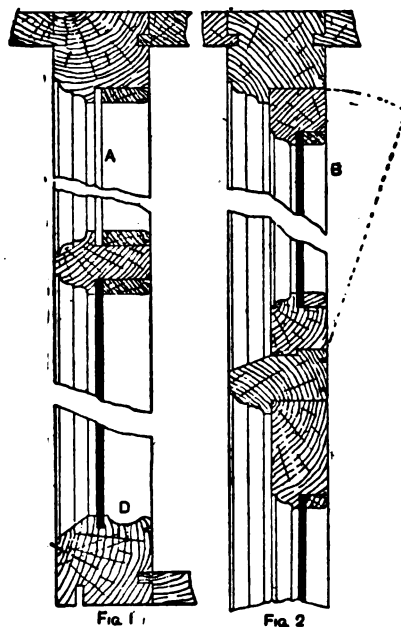
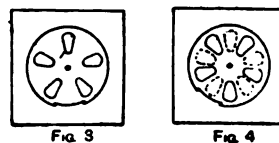

Fig. 1. Fig. 2.
Fig. 3. Fig. 4.
**Preventing Steam Condensing on Shop Windows.**—The chief cause of steam condensing on shop windows is insufficient ventilation. In constructing shop fronts provision should always be made for an iron ventilating grating at the top of the sash as at A (Fig. 1); also for a fanlight over the door as at B (Fig. 2). The grating may be fitted with a hinged flap on the inside so that it can be closed when not required; the fanlight is hinged to the transom to fall inside on quadrants, or is fitted with gearing. The sill of the sash is prepared for the
escape of condensed moisture (see D, Fig. 1); the bead which fixes the glass will intersect with the bead on the sill in the hollow, and from the outside a hole is bored and a zinc tube about ½ in. diameter is inserted (see dotted lines); this will carry away any water that may collect and prevent it running on to the show-board. Figs. 3 and 4 show, open and closed respectively, a glass louvre ventilator for fixing on to the plate-glass in the sash; these ventilators may be effectually used when there is no ventilator at the top of the sash.